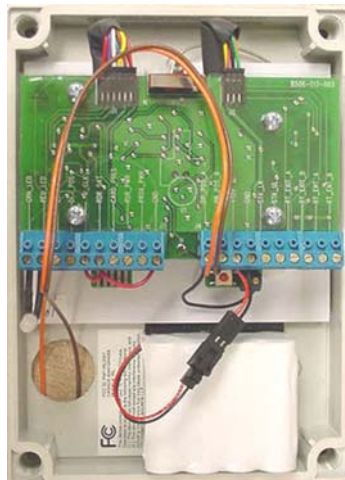
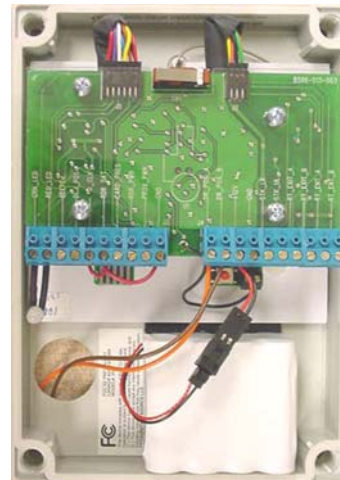

Figure 2-1 – Improper Wire Routing
Figure 2-2 – Proper Wire Routing
- 2.3.1 **TRANSCIVER CONTROL MODULE** – A 1” hole is provided in the back of the Transceiver Control Module for routing wires in & out. If needed, additional hole(s) can be drilled in the lower left hand corner of the Transceiver Control Module. Wire routing inside the enclosure is very important. Improper wire routing will reduce the RF range. Keep the wires inside the enclosure as short as possible (i.e. do not coil any excess wire inside the enclosure) (Figure 2-1 & Figure 2-2).